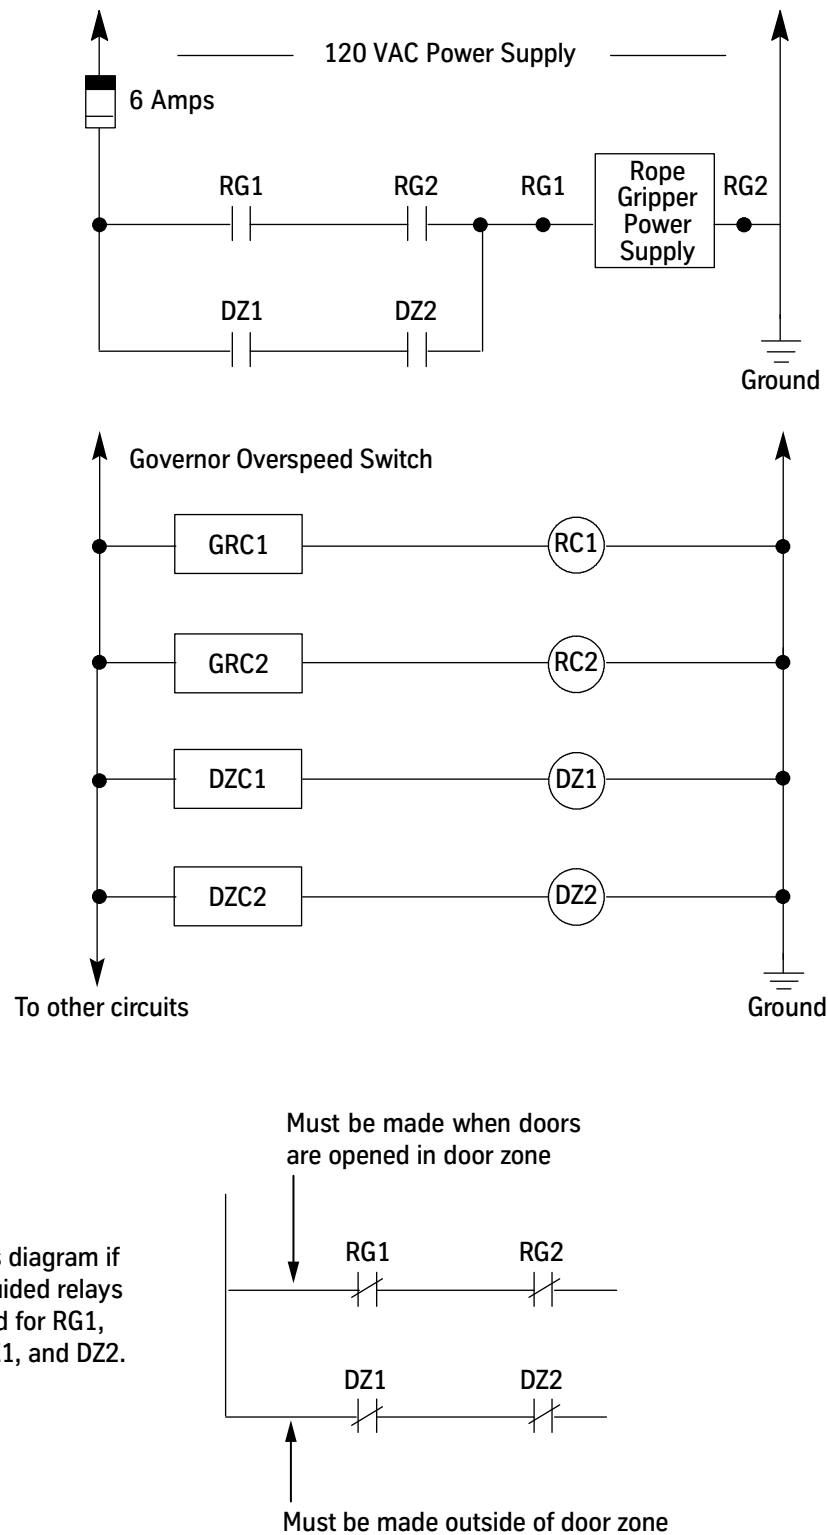

Figure 8 - Controller Circuits
- The controller circuits activate the rope gripper by opening contacts RG1, RG2, DZ1, and DZ2. See Figure 8 on page 35 for this section.